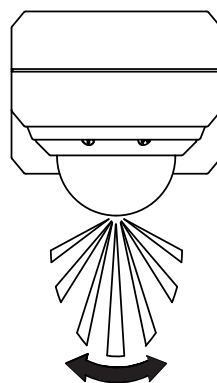
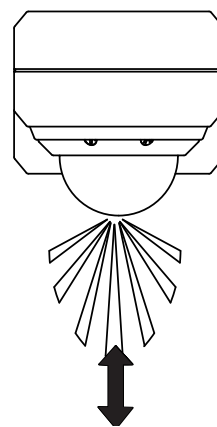

Fig. 1B
Fig. 1C
- The motion detector's monitoring area can vary slightly depending on the mounting height and mounting location, as well as on the ambient temperature. Before choosing an installing location for your motion detector, please note that the sensor reacts with greater sensitivity to movements across the monitored area (see Fig. 1B) than movements directly toward the sensor or away from the sensor (see Fig. 1C).